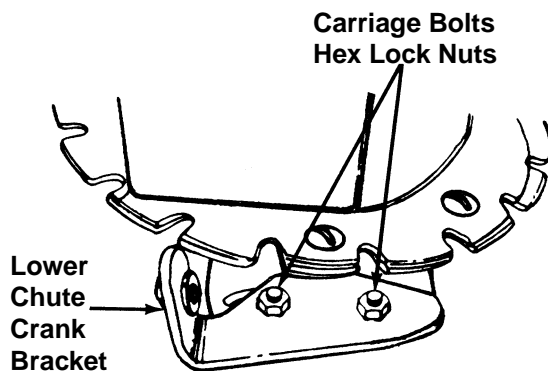

Figure 7
3. Loosen the carriage bolts and hex lock nuts which secure the lower chute crank bracket to the extension on the left side of the chute assembly. See figure 7.